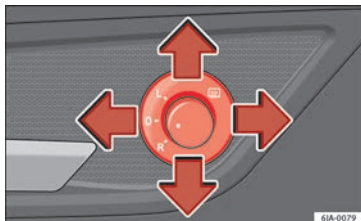

Fig. 57 Door interior: adjuster knob.
- Turn the knob to position **☀** »» Fig. 57.
- Turn the knob to position **L** »» Fig. 57. The mirror movements are the same as those of the knob.
- Turn the knob to position **R** »» Fig. 57. The mirror movements are the same as those of the knob.